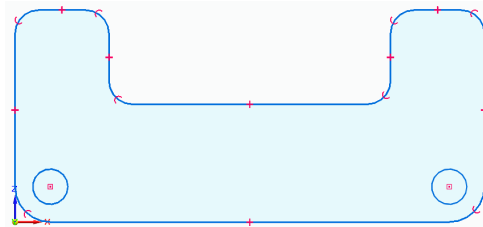

Figure 2-52 Final sketch of the model
7. Move the cursor over the center point of the lower right fillet and click when the concentric relationship handle is displayed. The final sketch of the model is shown in Figure 2-52.